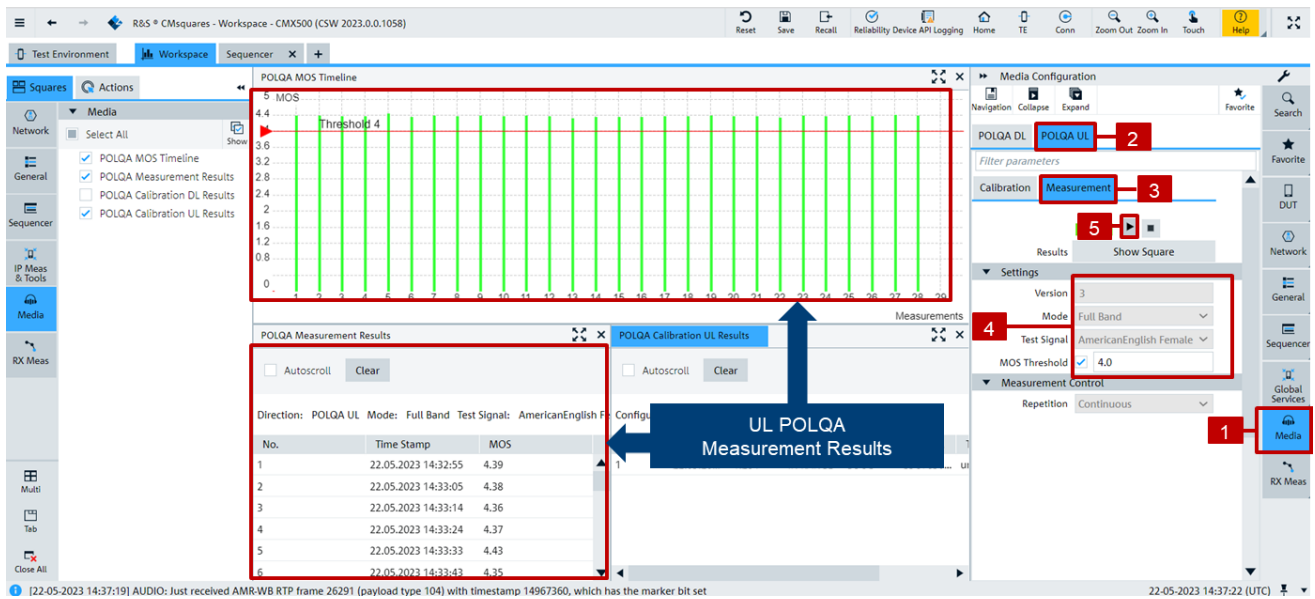

Figure 4-11 Perform POLQA UL measurement
4. Perform POLQA UL measurement with the steps indicated in Figure 4-11
Measured UL MOS values are presented in both 'POLQA Measurement Results' and 'MOS Timeline' squares. The measurement example in Figure 4-11 shows that each individual run delivers a result above the target MOS of 4.0.